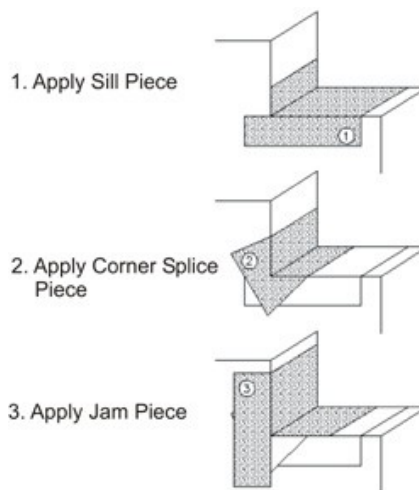

Figure 13
- 1) Apply the Dryvit Flashing Tape as shown in the detail below - Figure 13.